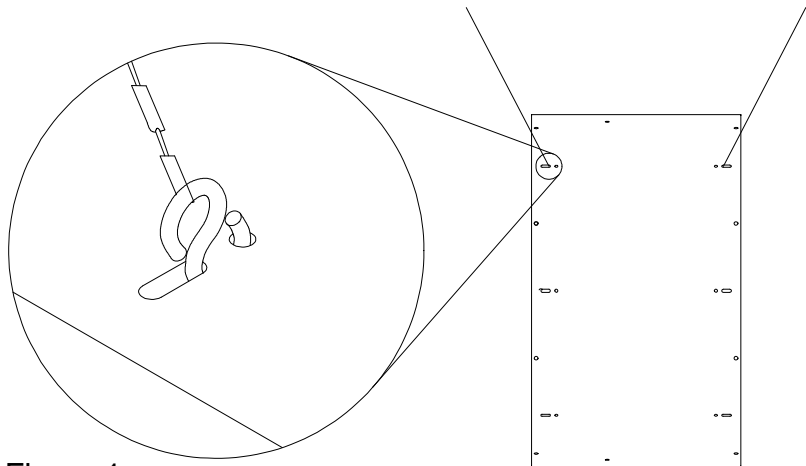

Figure 1
**For HF fans:** Use “S” hooks provided in any of the slots in the fan casing as shown in Figure 1.